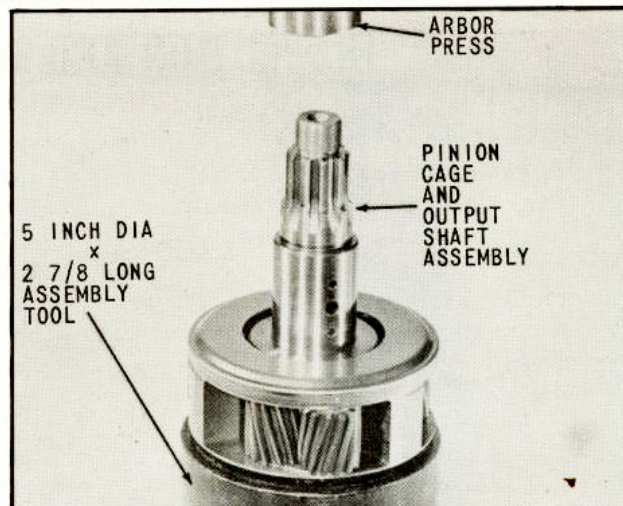

Fig. 20 Pinion Cage and Output Shaft Assembly in Place on Arbor Press
6. Place the pinion cage and output shaft assembly on a 5 inch diameter by 2-7/8 long assembly tool, which in turn is mounted on an arbor press, as indicated in (Fig. 20).